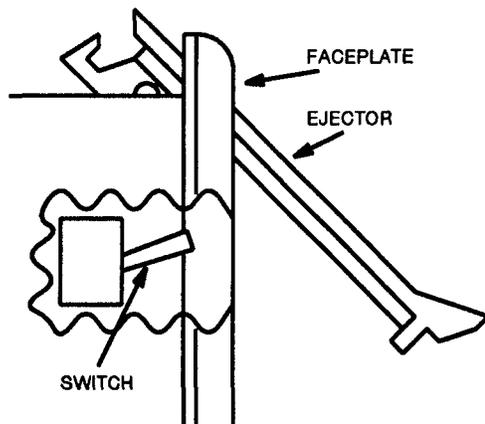

Figure 2. 20-Type OLIU LED Option Switch
10. **Figure 2** is a cutaway illustration showing the LED option switch in the **20-Type OLIU**. Access to the switch is gained by raising the ejector lever. The switch is illustrated in the **UP** position.